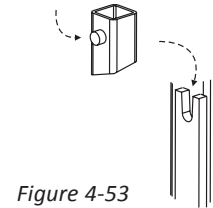

Figure 4-53
8. Attach platform by placing platform's upright pins into u-shaped bracket on tower. **See Figure 4-53.**